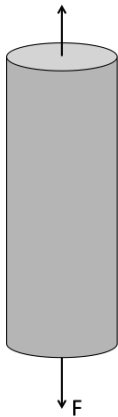

Figure 6: schematic for problem 2.e.
- i. If we have a rod of the material with cross-sectional area $A = 1 \text{ m}^2$ (see Figure 6) what is the maximum load (F) that can be applied before we reach the value of the ultimate tensile strength (TS). (Recall that $1 \text{ Pa} = 1 \text{ N} / \text{m}^2$).